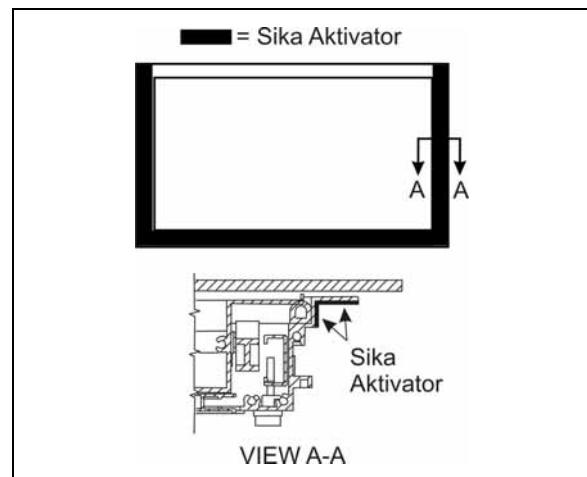

FIGURE 68 : AWNING WINDOW - SIKa AKTIVATOR
5. Previously clean surface with anti-silicone and then apply Sika Aktivator as per FIGURE 68;